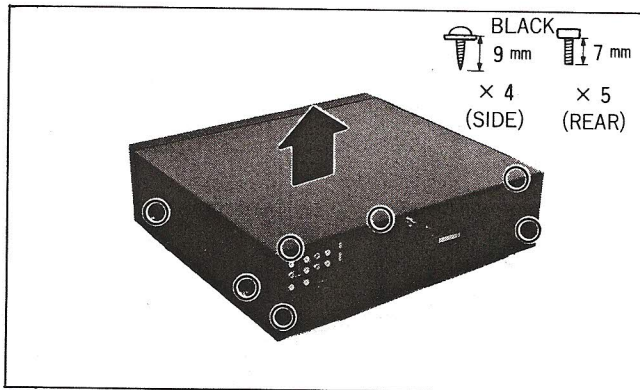

Fig. 1-1 Top Cover
1. Remove Top Cover (Refer to Fig. 1-1).